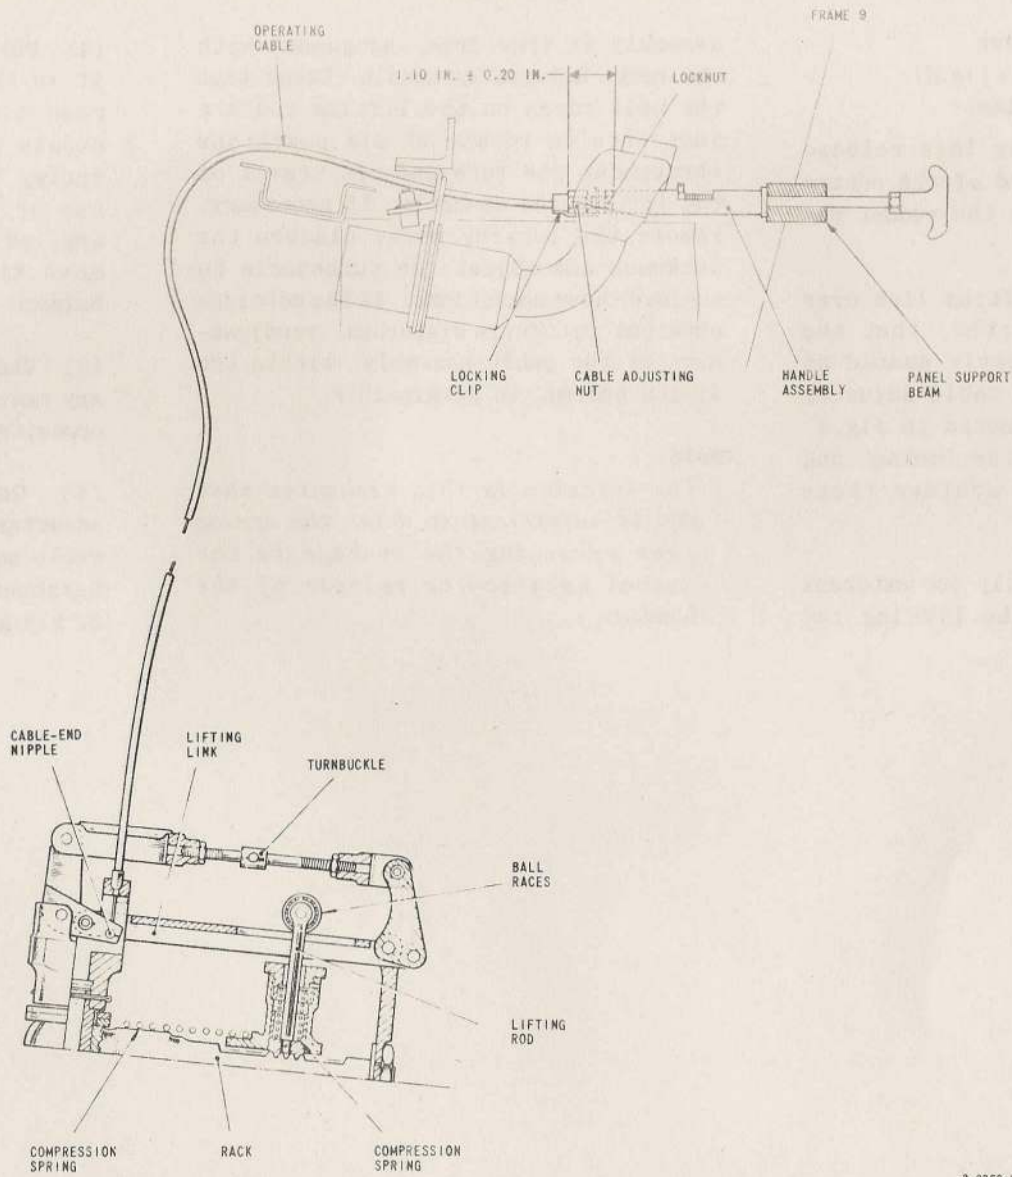

FIG. 8. ARRANGEMENT OF RUDDER PEDAL ADJUSTER-LOCK MECHANISM
adjuster-lock mechanism (fig.8)**
(1) Gain access to the lock-release handle assembly, forward of the centre instrument panel and to the rudder bar assembly.
(2) Check that the lifting link over the rack is not disturbed, that the cable conduit is correctly seated at both ends and that the cable adjuster is within the limits quoted in fig.8. If necessary, slacken the locknut and turn the adjuster to achieve these conditions.
(3) Pull the handle fully out and check that the plunger of the lifting rod